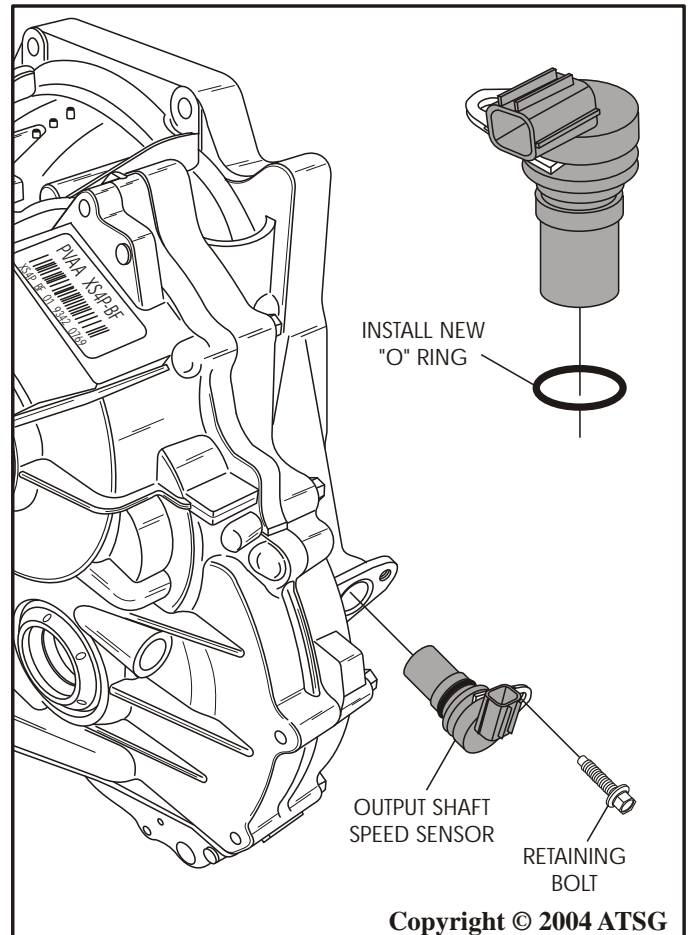

Figure 190
3. Install new "O" ring onto output shaft speed sensor, lubricate with Trans-Jel® and install into the case bore, as shown in Figure 190.
4. Install speed sensor retaining bolt and torque to 9 N•m (80 in.lb.) (See Figure 190).